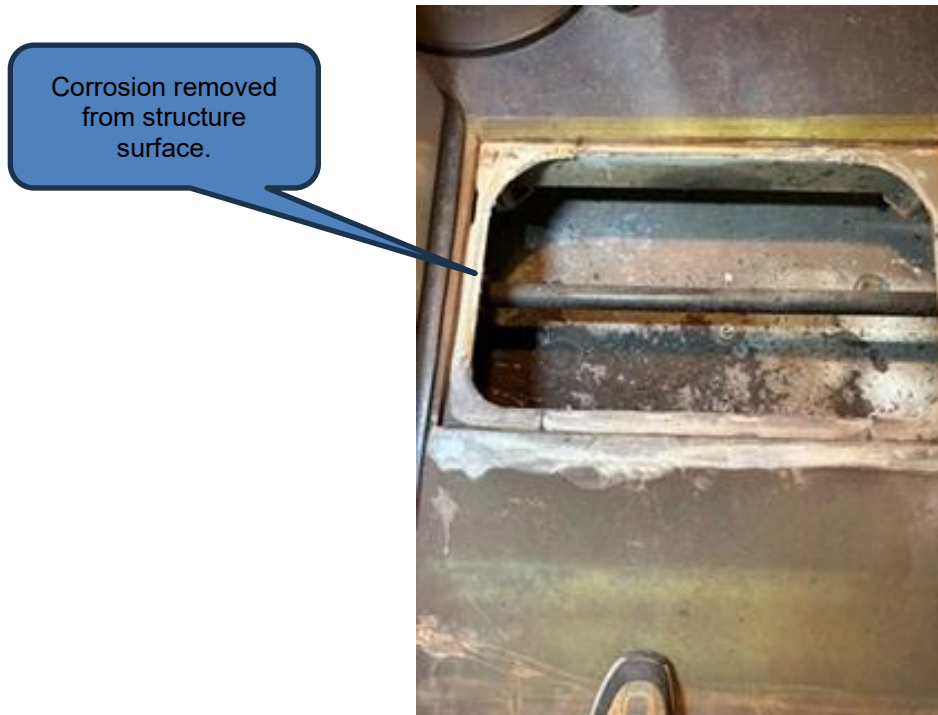

FIGURE 13: RUST REMOVED FROM STRUCTURE SURFACE
21. Rust scaling and staining seen on structure. To remove rust, use a de-scaler first on the surface. Next sand blast area to remove all rust. Blow off area to remove all dust. Wipe down surface with lint cloth. See Figure 13.